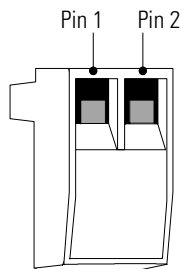

Figure 9. REPO Connector
3. Connect isolated, normally-open, dry contacts (rated to handle 60 Vdc maximum, 30 Vac RMS maximum, and 20 mA maximum) across the REPO device to Pin 1 and Pin 2 (see Figure 9). Use stranded, non-shielded wiring, size 18–22 AWG (0.75 mm²–0 mm²).